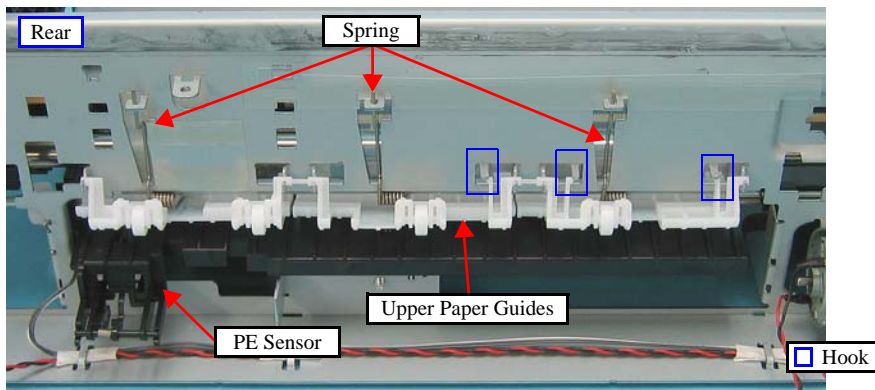

Figure 4-99. Removing the Upper Paper Guides (1)
3. Release the hooks (x3), release the Upper Paper Guides from the shaft holders of the printer frame, lower the actuator of the PE Sensor, and remove the Upper Paper Guides. (See Figure 4-99.)